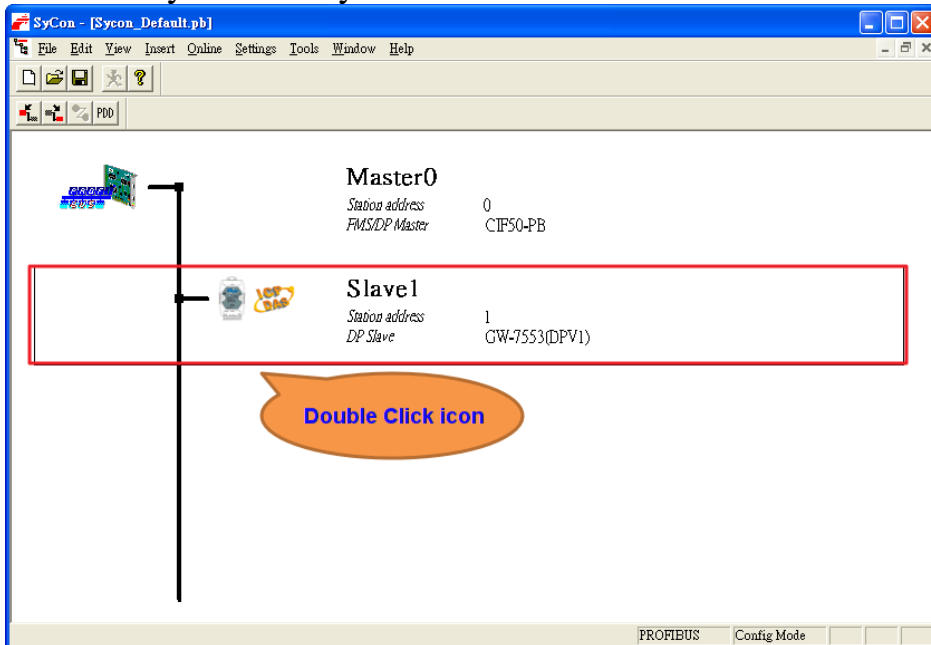
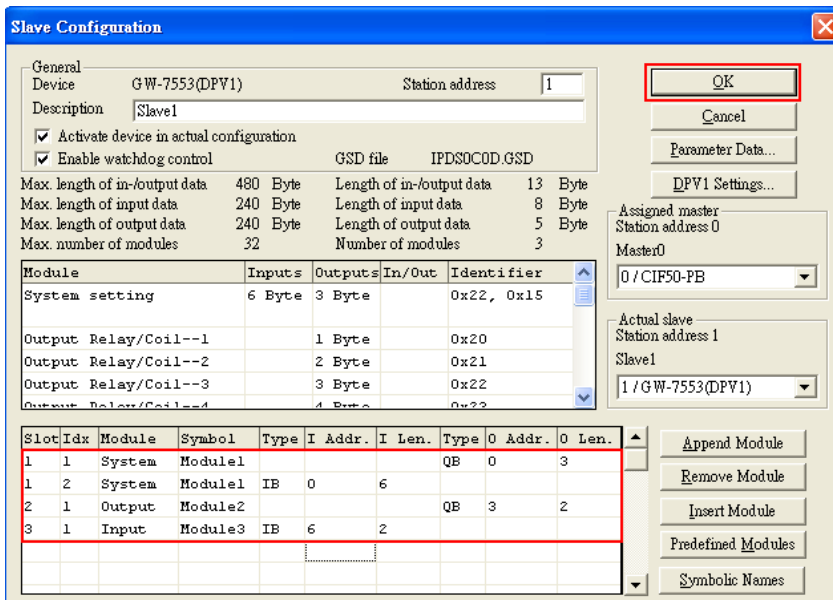

Figure 81 Double click the GW-7553 icon to open the “Slave configuration” window
Figure 82 Select modules
Step 4: Set the GW-7553 modules, as shown in **Figure 81** and **Figure 82**.